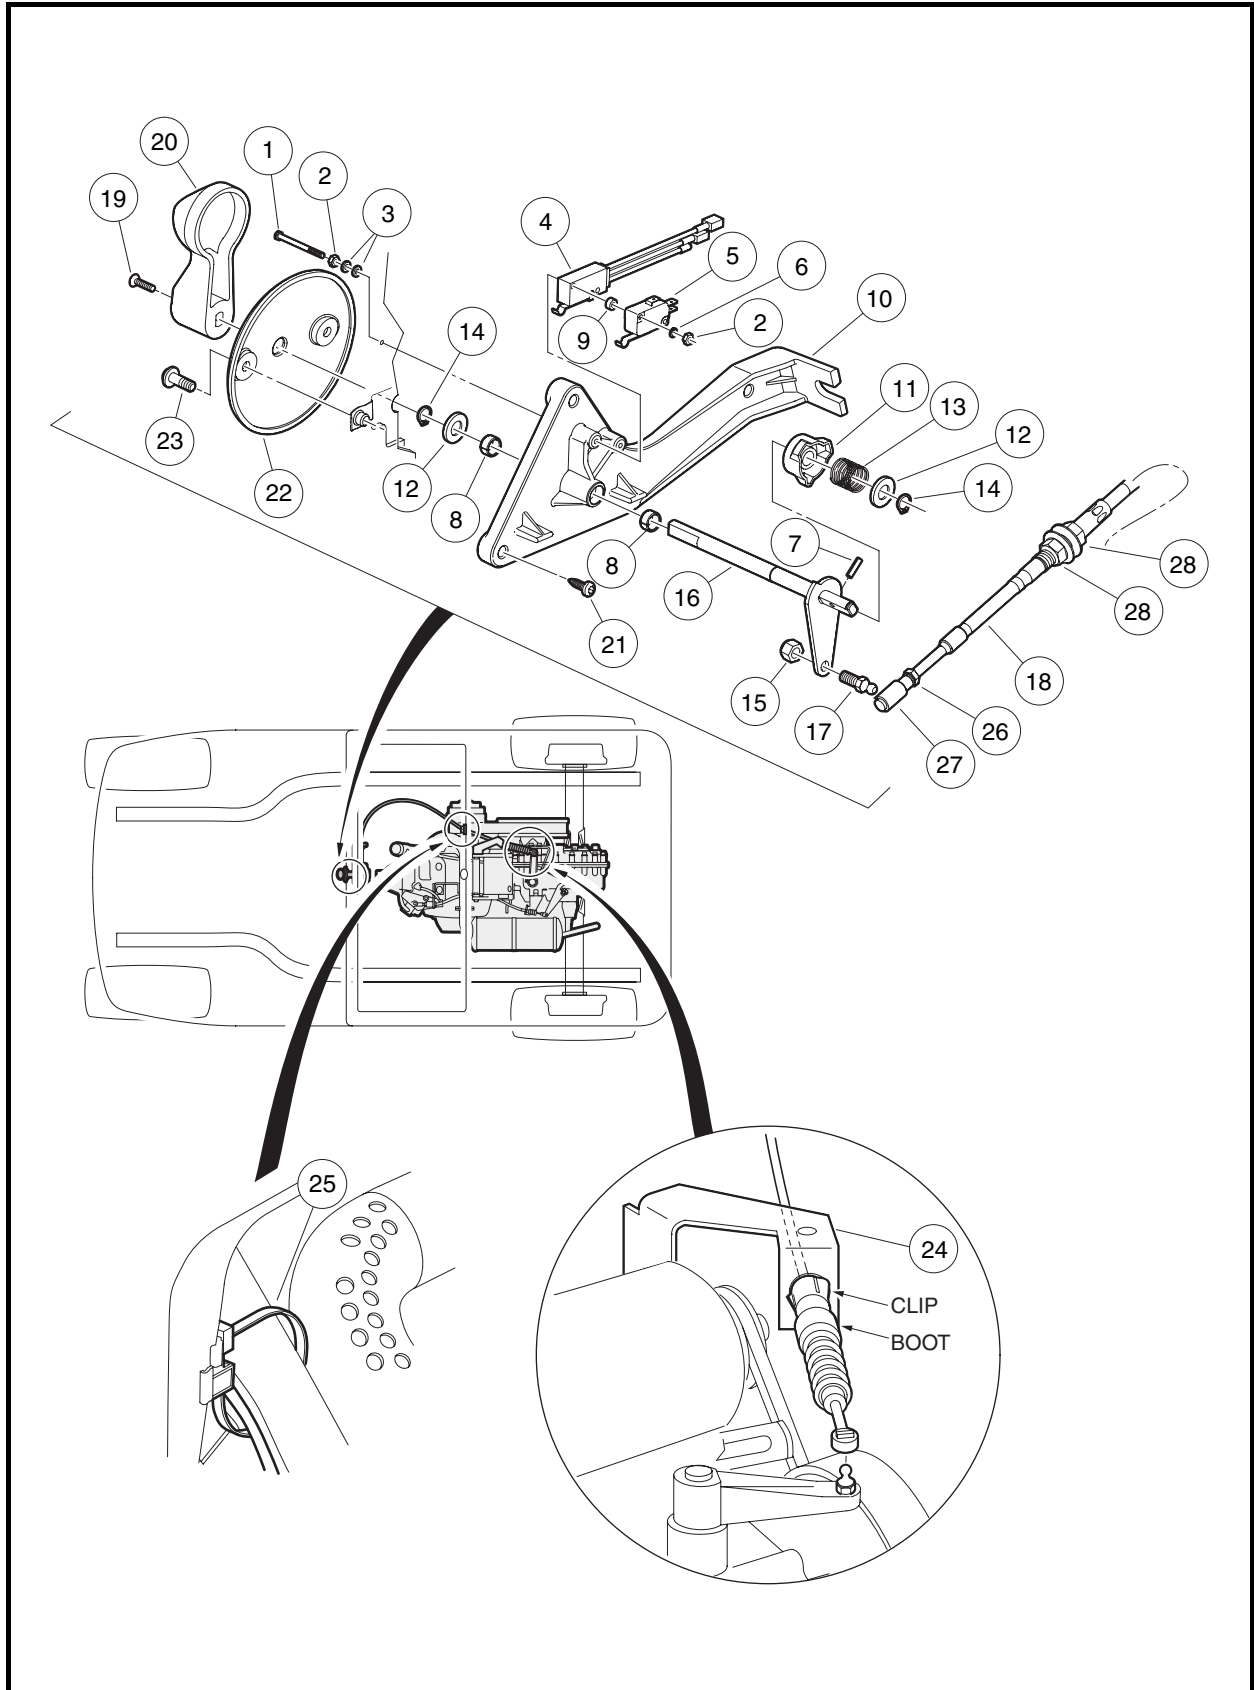

Figure 16-55 Forward/Reverse Cable
3. Loosen lock nut (26) where the cable attaches to the shifter (**Figure 16-55, Page 16-23**). Push in the end of the ball joint socket (27) to release the cable from the ball stud (17).
4. Loosen retaining nuts (28) to release cable from bracket (10).
5. Release the wire tie (25) that is clipped to the bucket and secure the cable.
7. Compress clips on boot enough to push boot through the cable bracket (24). Remove cable from vehicle.
1. From the Forward/Reverse shifter, route the cable toward the passenger side of the vehicle so it lies against the side of the front body, turns 90° and passes over the battery, through the opening to the engine, and through the cable bracket to the shifter arm (**Figure 16-55, Page 16-23**). Make sure cable does not touch muffler.
2. Place cable in bracket (10) and secure in position with two retaining nuts (28). Tighten retaining nuts to 43 in-lb (4.9 N·m).
3. Attach ball joint socket (27) to stud (17) on shifter. Tighten lock nut (26) to 43 in-lb (4.9 N·m).
4. Position cable near the clip and secure it with wire tie (25).
5. Push cable boot through cable bracket (24). Clips on boot should snap in place to secure the cable in position.
With the shifter lever of the unitized transaxle in the NEUTRAL position (**Figure 16-55, Page 16-23**), the Forward/Reverse handle (20) should be straight up. For minor adjustments, the lock nut (26) may be loosened and the ball joint socket (27) rotated to get the proper adjustment. **See following CAUTION.**